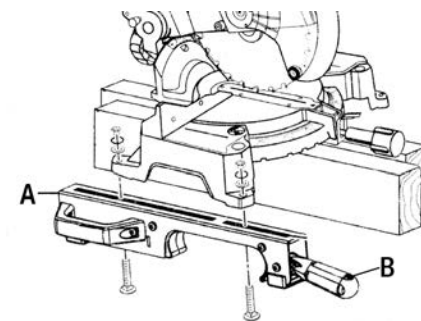

FIGURE 7
- 1) Position your miter saw two thick pieces of wood to allow you to position the mounting brackets (A) Fig.7 underneath the mounting holes of your miter saw base.
- 2) Fix the mounting brackets to your miter saw using the supplied carriage bolts, washers, spring washers and hex. nuts as shown in Fig.7.
- 3) Position the miter saw and attached mounting brackets onto the top of the stand, place the rear of the mounting brackets onto the rear stand bar first, once installed on the bars, lower the mounting bracket lock handles (B) to secure the assembly in place.